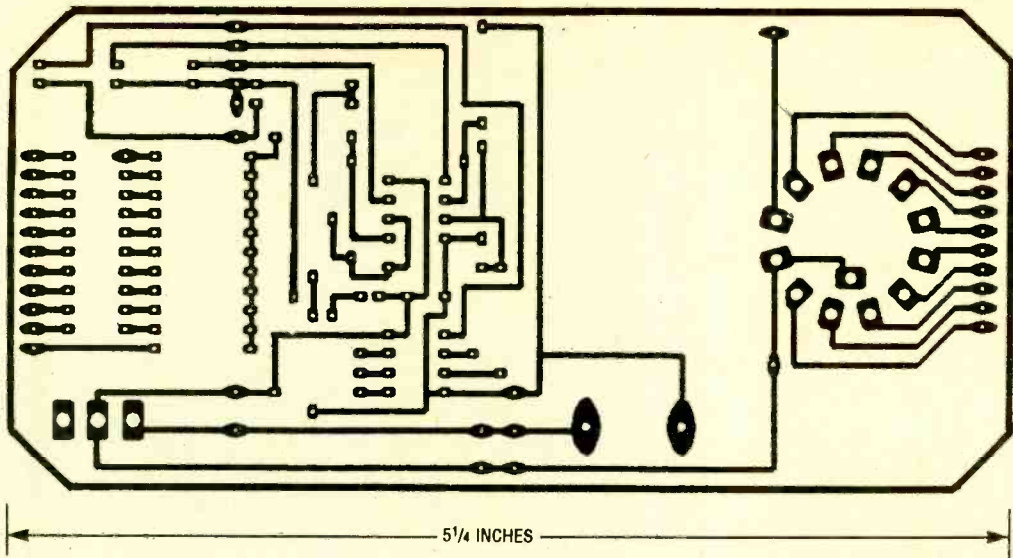

Fig. 3. The Cable Tester was assembled on a printed-circuit board. Here is a full-size template for that board.
**Construction.** The circuit's construction is straightforward, and most of the parts are readily available from local or mail-order electronics distributors. The Cable Tester was assembled on a printed-circuit board. A template for the circuit board is shown in Fig. 3.